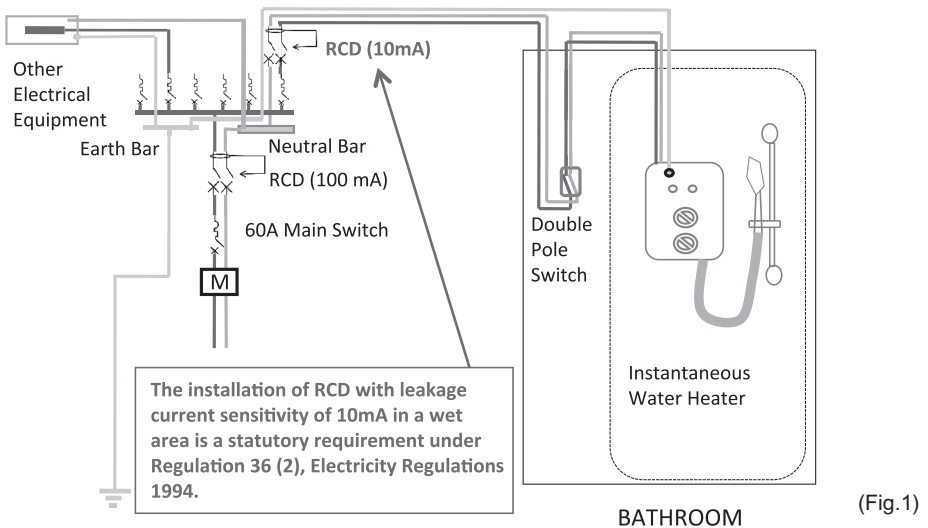

Figure 1: The installation of RCD for instantaneous water heater with leakage current sensitivity of 10mA in a wet area.
3.METHODS OF USING (TWH-45EMCPMY(K)-KB、 TWH-45EMCPMY(S)-RS).....	(13)
4.METHODS OF USING (TWH-45EMC1PMY(K)-RS).....	(16)
5.METHODS OF USING (TWH-38MCNMY(W)-CS、 TWH-38MCNMY(S)-CS).....	(20)
6.Maintenance	(22)
7.Troubleshooting.....	(23)
- Incorporating Figure 1, The installation of approved extremal RCD for instantaneous water heater with leakage current sensitivity of 10 mA in a wet area of the Energy Commission Guideline for the Design, Installation, inspection, Testing, Operation and Maintenance of Water Heater Systems.